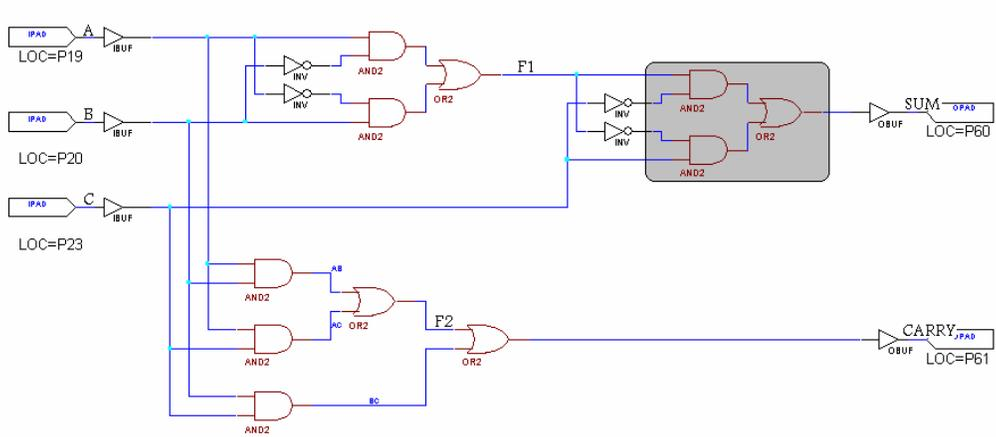

Figure 4.1
- Create a macro for the circuit bounded by the shaded box shown in Figure 4.1 (Notice that this part is repeated three times in the circuit). Call this macro MACRO41.
- Analyze the circuit given in Figure 4.1 to find another region where you can use MACRO41.
- Build a two-bit adder using the circuit given in Figure 4.1 as a macro (FA) by connecting them as shown in Figure 4.5